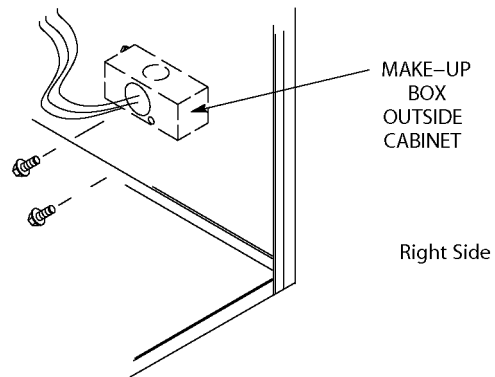

Figure 39
1. Gas piping may be routed into the unit through either the left or right hand side. Supply piping enters into the gas valve from the side of the valve as shown in Figure 39.
3. Gas piping must not run in or through air ducts, clothes chutes, chimneys or gas vents, dumb waiters or elevator shafts. Center gas line through piping hole. Gas line should not touch side of unit. See Figure 39.